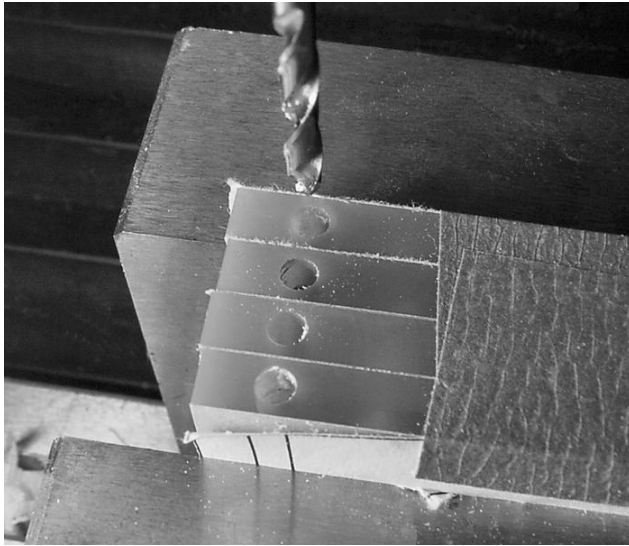

Figure 13-38. One end of the motor-mount stack is finished.
6. When finished with one end, the stack should look like Figure 13-38.